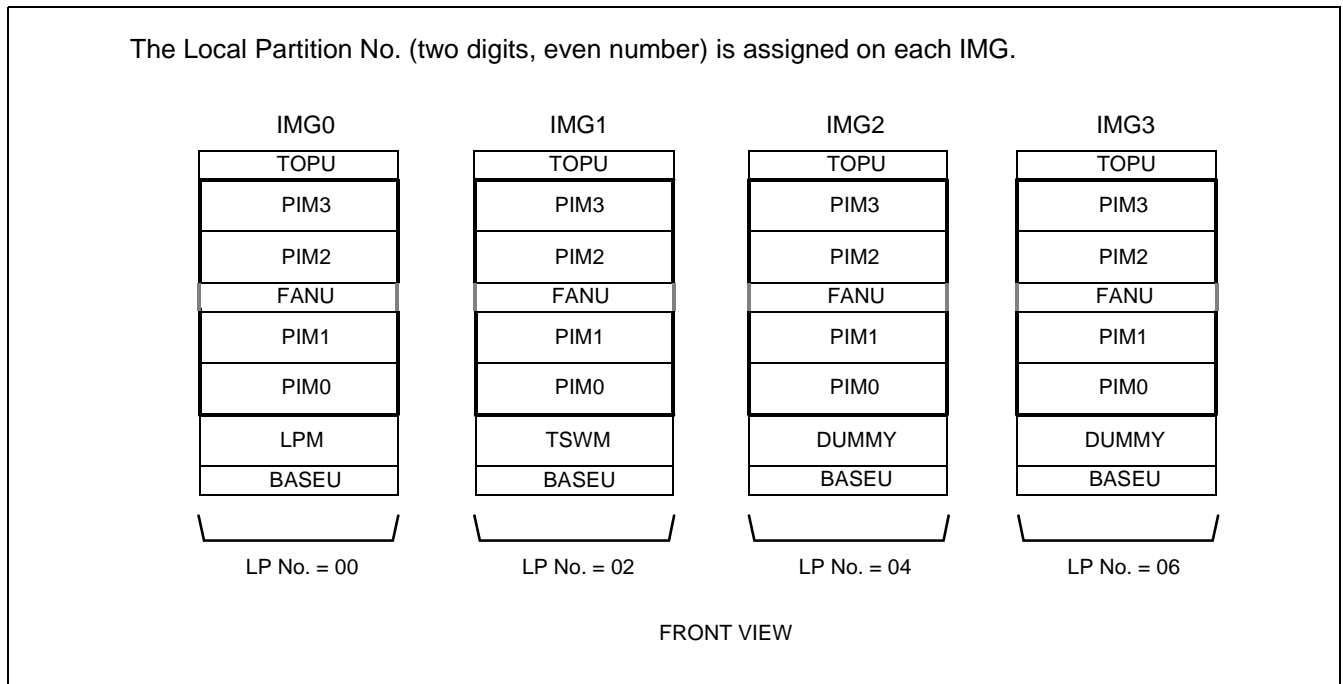

Figure 2-11 LP Number Allocations
2.3 Local Partition (LP) Number
The Local Partition (LP) number refers to a logical local processor number, theoretically assigned for each IMG that consists of four (or less) Port Interface Modules (PIM). Though the local processor does not actually exist in any of the IMGs, except for IMG0, the system can apply the two-digit LP number to each IMG (see Figure 2-11) on its data memory program. The LP numbers are used primarily in the following cases: